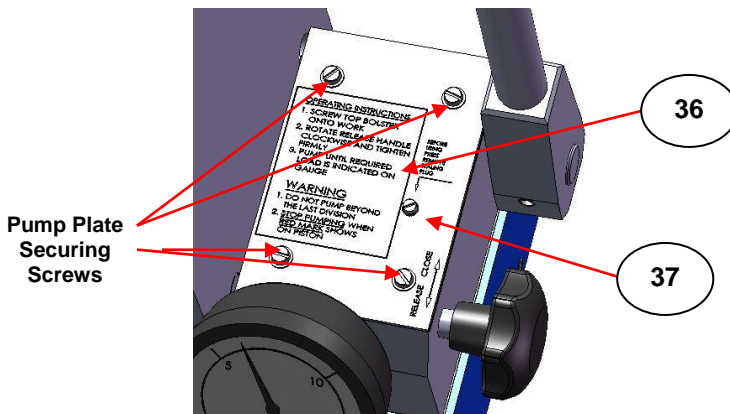

Fig 9. Pump Plate Removal
To gain access to the oil bleed screw (40), the pump plate (36) must first be removed. (In Fig 9. the transport screw (37) is shown but normally this has been removed for use.)